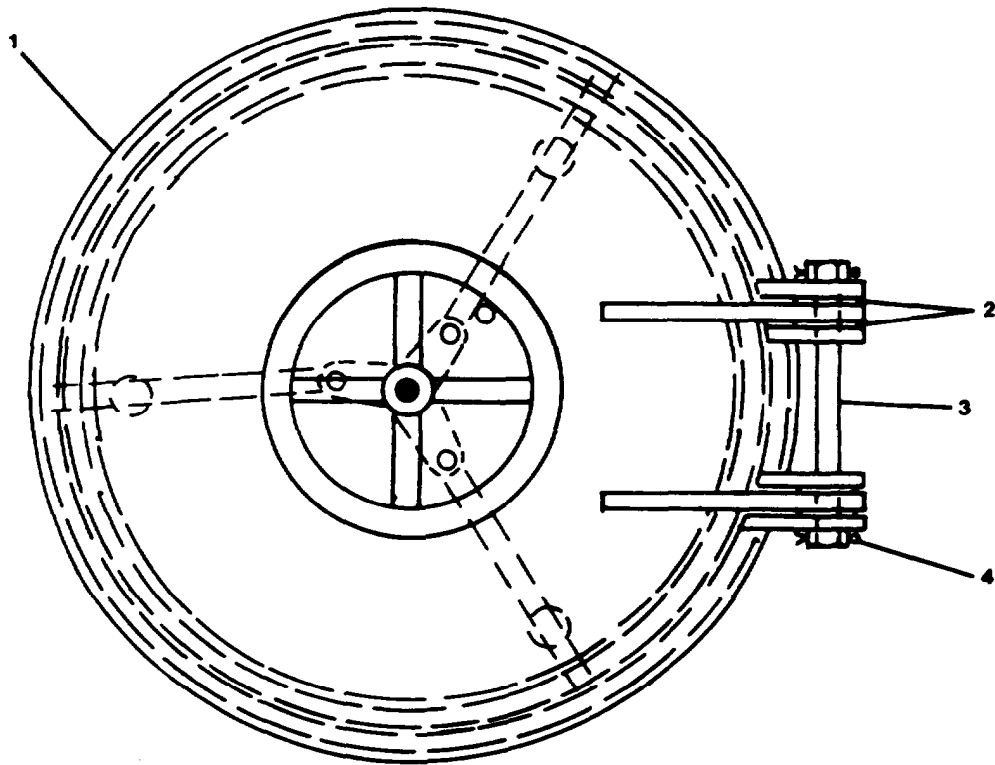

FIGURE 2-182. Remove Watertight Scuttle, Quick Action (Raised).
- a. Open scuttle (1, FIGURE 2-182).
- b. Remove cotter pins (4) from cylindrical pin(3).
- c. Remove cylindrical pin (3) from hinge blades.
- d. Remove flat washers (2).
- e. Remove scuttle (1) from closure.
- a. Place scuttle (1, FIGURE 2-182) in place.
- b. Install flat washers (2) and align holes.